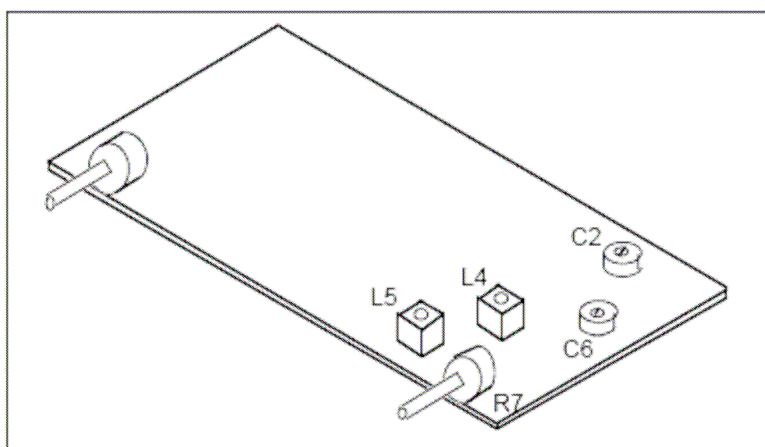

Figure 18. Locations of the variable capacitors and inductors
4. q Set the TUNING control to the 10 o'clock position. *Carefully* adjust inductor L5 (Figure 18) with the white tuning stick until a loud low frequency tone is heard in the speaker (set volume control as desired). *Caution:* Do not screw down the inductor slugs too far, as the ferrite material could crack. By adjusting L5 to hear the tone, you are tuning the receiver to 20.00 MHz. The signal which you hear is generated in OSC1, a crystal controlled test oscillator built into the receiver. Once L5 has been set, DO NOT readjust it during the remainder of the alignment procedure. (When the receiver tunes 20.00 MHz with the knob set to the 10 o'clock position it will tune 20.1 MHz with the knob centered on the 12 o'clock position.)